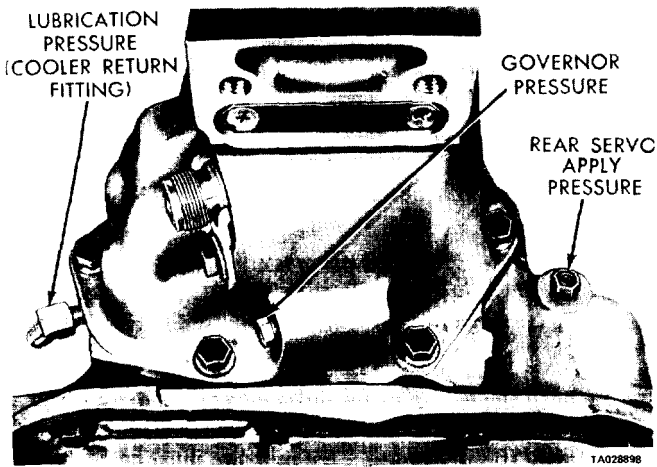

Figure 4-31. Pressure Test Locations (Rear End of Case).
(1) Install a "T" fitting between the cooler return line fitting and the fitting hole in the transmission case at the rear left side of the transmission (figure 4-31). Connect a 100 psi pressure gage to the "T" fitting.
(1) Connect a 300 psi pressure gage to the pressure take-off' point at the rear servo (figure 4-31).
(2) With the transmission control in the "R" position and the engine speed set at 1,600 rpm, the reverse servo "apply" pressure should be 230 to 260 psi.
(1) Connect a 100 psi pressure gage to the governor pressure take-off point, located at the lower left side of the extension near the mounting flange (figure 4-31).
(2) Governor pressures should fall within the limits given in table 4-2 (paragraph 4-3). If they are incorrect at the given speeds, the governor valve and/or weights are probably sticking.